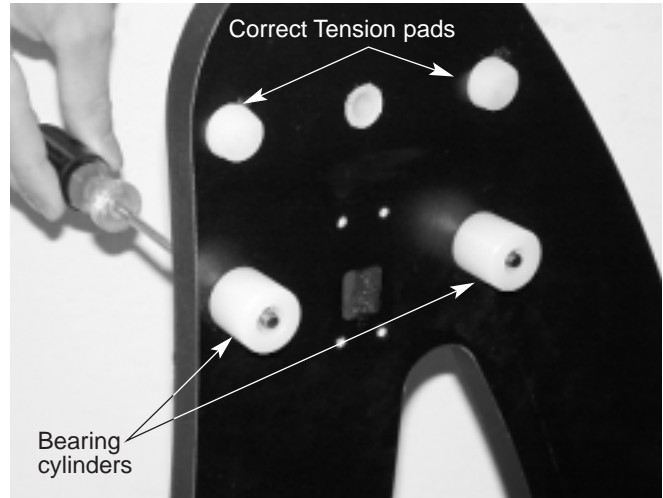

Figure 5. Attaching the bearing cylinders. (XT10 Shown)
11. Attach the handle (M) to the front brace (B) with the two handle mounting hex-head screws. Place one washer on each screw, then press the handle against the front brace (the end of the handle with the logo should be up). Then thread the screws from the inside of the base into the handle until tight using the supplied crescent wrench.
12. Line up one of the altitude bearing cylinders with the inside of one of the four bearing cylinder holes on the side panels. Push a bearing cylinder screw through the side panel and bearing cylinder. Then thread it into the built-in hex nut on the cylinder with a Phillips head screwdriver (Figure 5). The beveled end of the cylinder should be facing away from the side panel. Repeat this for the remaining three bearing cylinders.